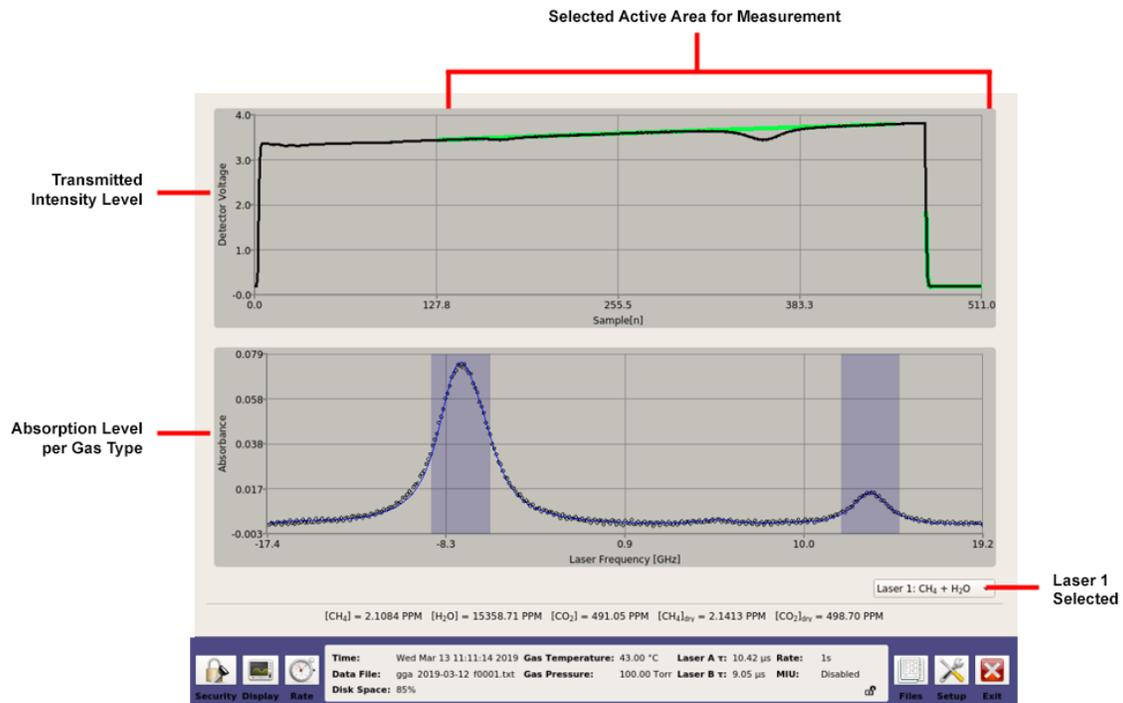

Figure 27: Spectrum Display Screen for Laser 1
- *Spectrum* (Figure 27)
- Laser 1 (also referred to as laser A) displays CH₄ and H₂O peaks. (Figure 27)